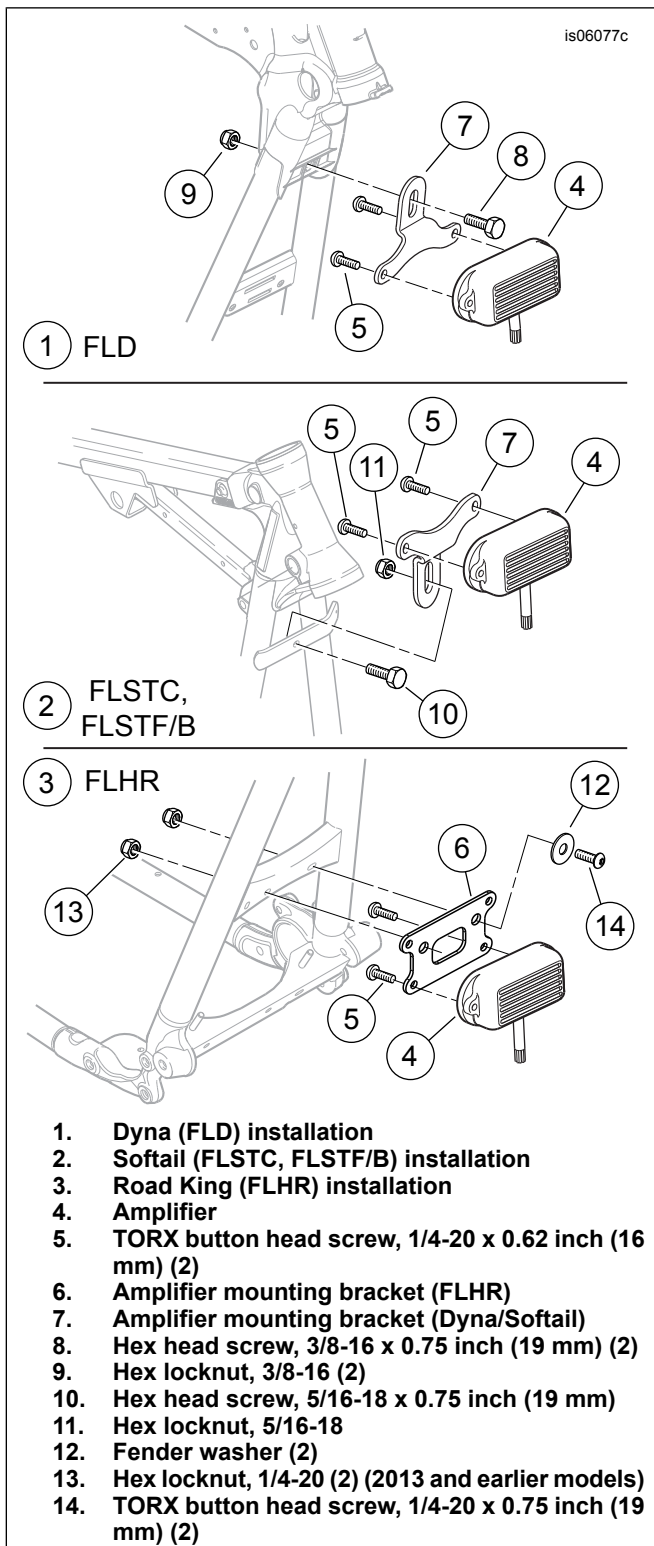

Figure 1. Amplifier and Bracket Installation
- **For Dyna models:** Select one screw (11) and one locknut (12) from the kit.
- **For Softail models:** Select one screw (13) and one locknut (14) from the kit.
- **For Road King models:** Select two screws (17), two washers (15) and two locknuts (16) from the kit.
4. See Figure 1. Install the amplifier and bracket to the frame crossmember between the front down tubes as shown.